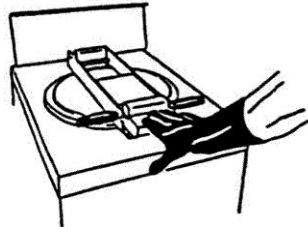

FIGURE 17
- B. Do not touch handlebar to open lid until pressing down on lid lock causes the lid to lower (FIG 17).